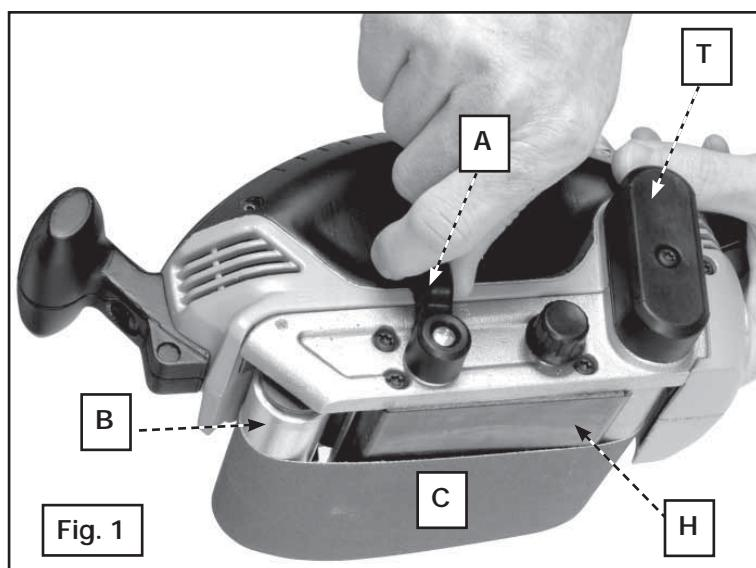

Fig. 1
1. Rotate the belt release lever (A) Fig. 1 up until front wheel of the sander (B) Fig. 1 retracts and releases the tension on the abrasive belt (C).
4. Rotate the belt release lever (A) Fig. 1 down into position to reapply tension to the belt.
**CAUTION:** To reduce the risk of injury, check to see that the belt guard (T) Fig. 1 is in place, secured, and working correctly.
4. NOTE: The belt should be aligned with the flush edge of the platen (H) Fig. 1 while the sander is in operation.
2. Rotate the belt release lever (A) Fig. 1 down.